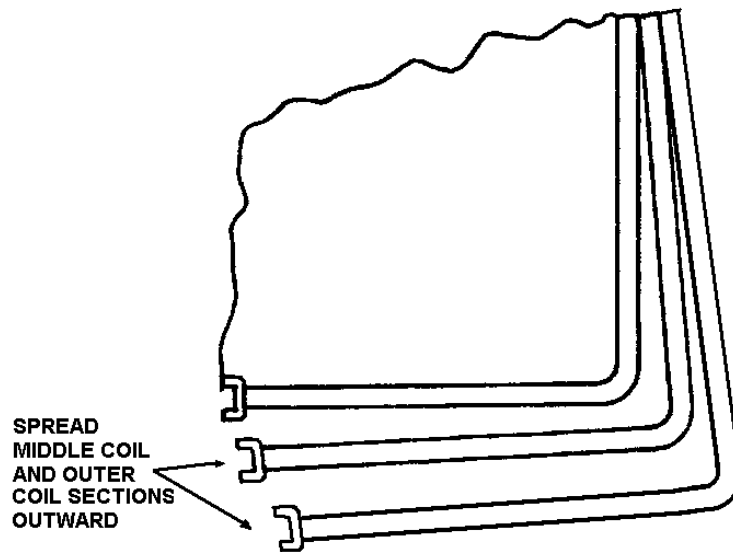

Fig. 19 - Coil Cleaning Typical - 38AKS016 & 024
3. Remove clips securing tube sheets together at the return bend end of the coil. Carefully spread the ends of the coil rows apart by moving the outer sections. See Fig. 19.